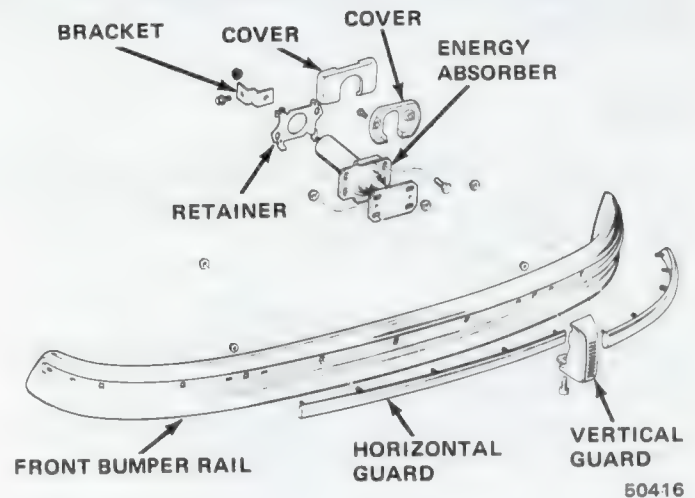

Fig. 3F-12 Front Bumper Components—Pacer
- (1) Remove absorber covers (fig. 3F-12).
- (2) Support one end of bumper and remove bumper nuts at supported end.
- (3) Remove bumper nuts on opposite end and remove bumper horizontally.